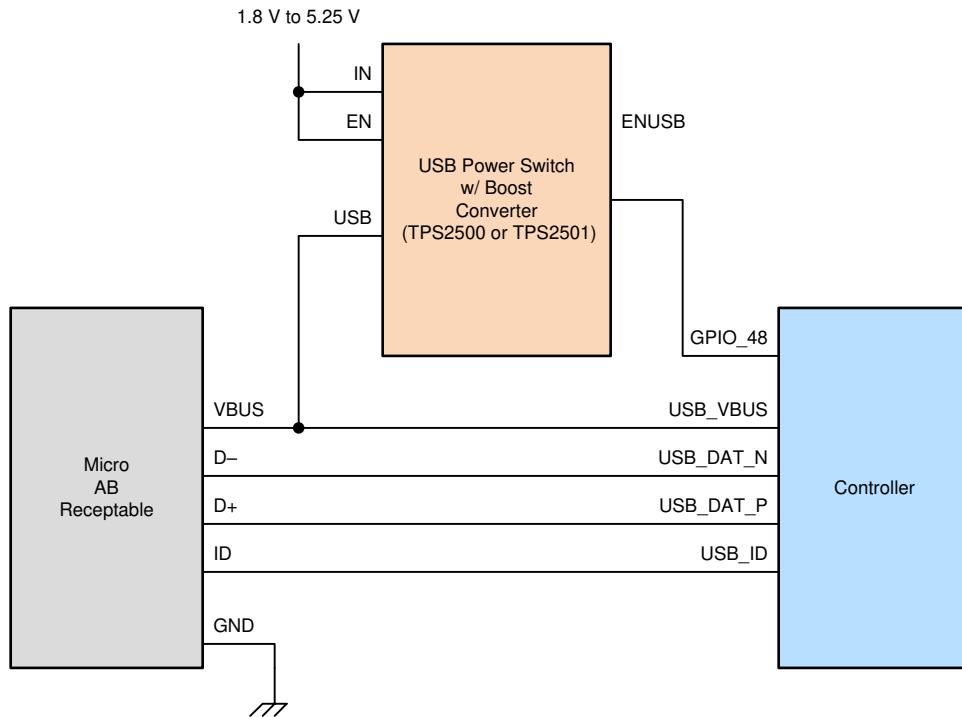

Figure 5-3. External USB Switch Example for DLPC7530 Controller as USB OTG Controller
(1) Referenced to VAD33_USB (I/O type 11)
(2) When used as a controller as part of USB OTG, the DLPC7530 requires an external USB switch to provide the USB 5V power. The example shown in Figure 5-3 uses a TI TPS2500/2501 device. The example figure does not describe the required ancillary components (such as resistors and capacitors). For this information, refer to the USB switch logic data sheet for the selected device. The external USB switch is not required for product configurations that support USB peripheral mode only.